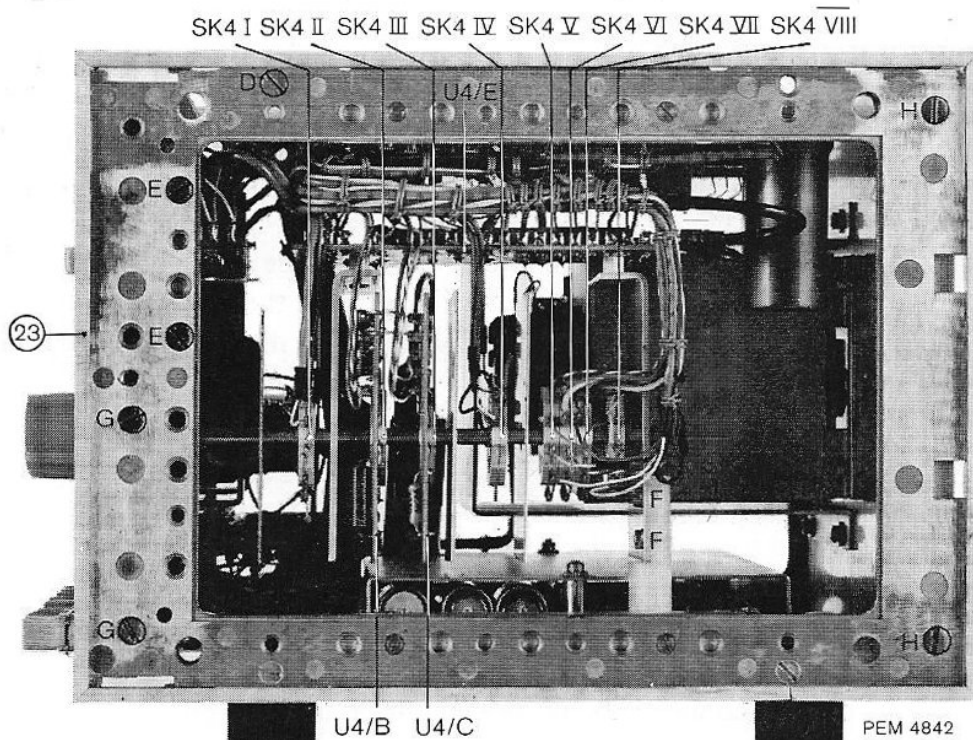

Fig. 18. Right-hand side
- Remove screws "F" (Fig. 18).